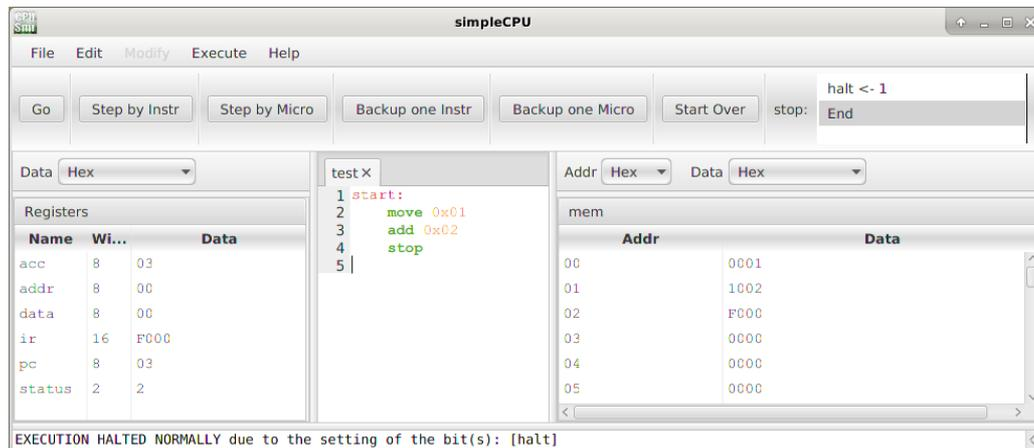

Figure 27 : halting the simulator
**Task** : update either test program to include the `STOP` instruction, as shown in figure 26. Confirm that the simulator is stopped, a `HALT` message will be displayed in the bottom panel, as shown in figure 27.